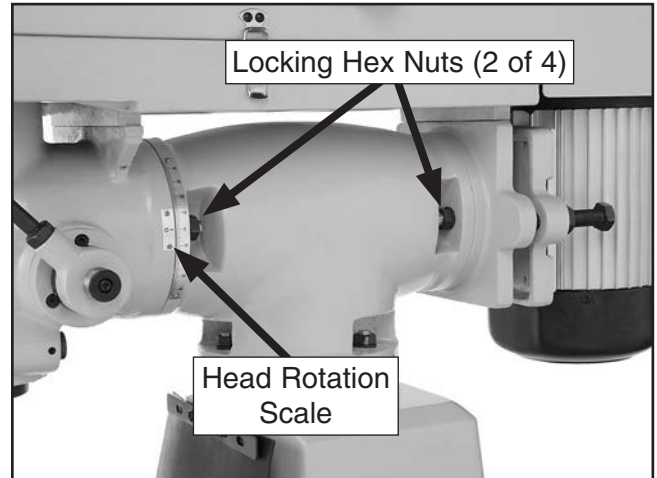

Figure 19. Head rotation locking hex nuts (2 of 4 shown).
2. Loosen the four locking hex nuts on either side of the turret (see **Figure 19**).